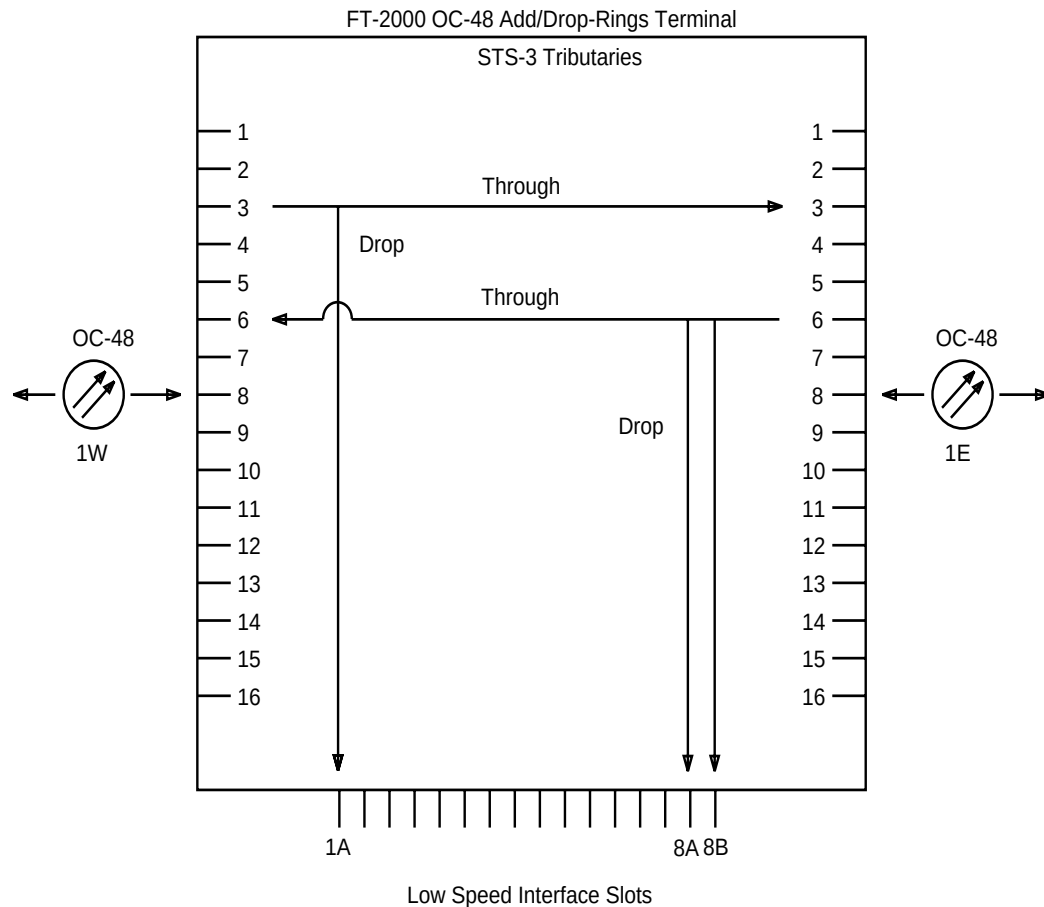

Figure 8-3. STS-3 Bridge Cross-Connections at an FT-2000 OC-48 Add/Drop-Rings Terminal
- **Bridge cross-connections:** A bridge cross-connection is limited to a drop cross-connection and a superimposed through cross-connection sharing the same source (drop and continue). The drop cross-connection and through cross-connection share the same incoming STS-3 tributary of OC-48 high-speed line 1E or 1W. For example, Figure 8-3 shows incoming service STS-3 tributary 3 of OC-48 high-speed line 1W cross-connected to outgoing service STS-3 tributary 3 of OC-48 high-speed line 1E. Incoming service STS-3 tributary 3 of OC-48 high-speed line 1W is also cross-connected to service low-speed interface slot 1A.
Cross-connections can be made to/from any service low-speed interface slot and the companion low-speed interface slot (for example, 2A and 2B) when the slot pair is provisioned for the OC-3 1+1 protected mode. For example, Figure 8-3 shows incoming service STS-3 tributary 6 of OC-48 high-speed line 1E cross-connected to outgoing service STS-3 tributary 6 of OC-48 high-speed line 1W. Incoming service STS-3 tributary 6 of OC-48 high-speed line 1W is also cross-connected to service low-speed interface slots 8A and 8B.